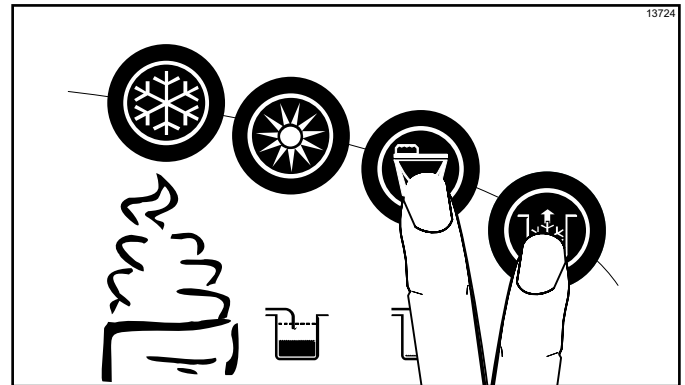

Figure 6-50
3. When the flow of product stops, press the Wash and Pump keys   , canceling the Wash and Pump modes. Close the draw valve. Properly dispose of the mix. (See Figure 6-50.)